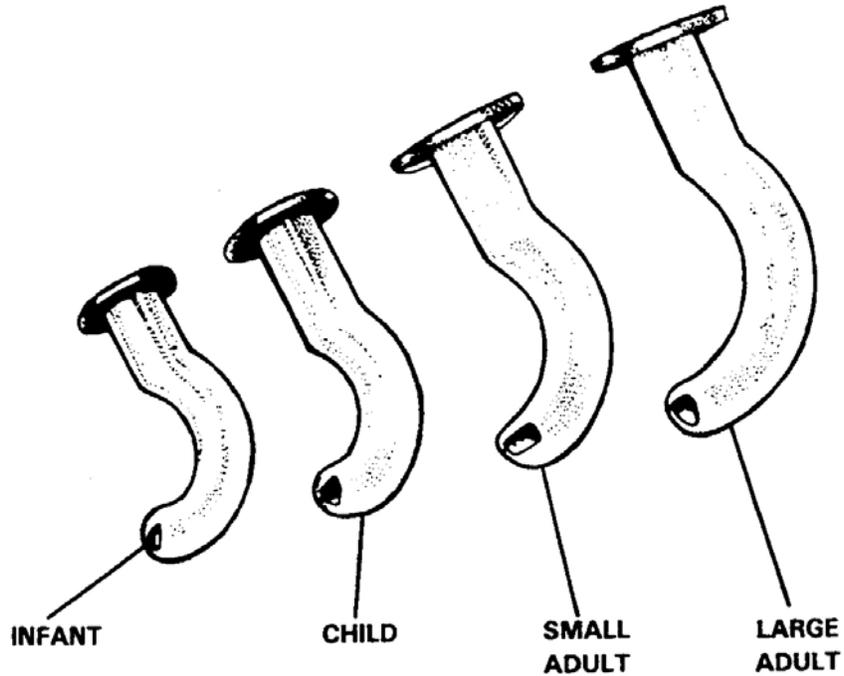

Figure 2-1. J-tubes.
b. **Select the Proper Size Oropharyngeal Airway.** To select the correct size of airway, select one of the J-tubes (figure 2-1) and hold it alongside the patient's jaw (jaw in the normal position with the mouth closed). Then measure from the corner of the patient's mouth to the bottom tip of his ear. Use the J-tube that best matches this measurement.